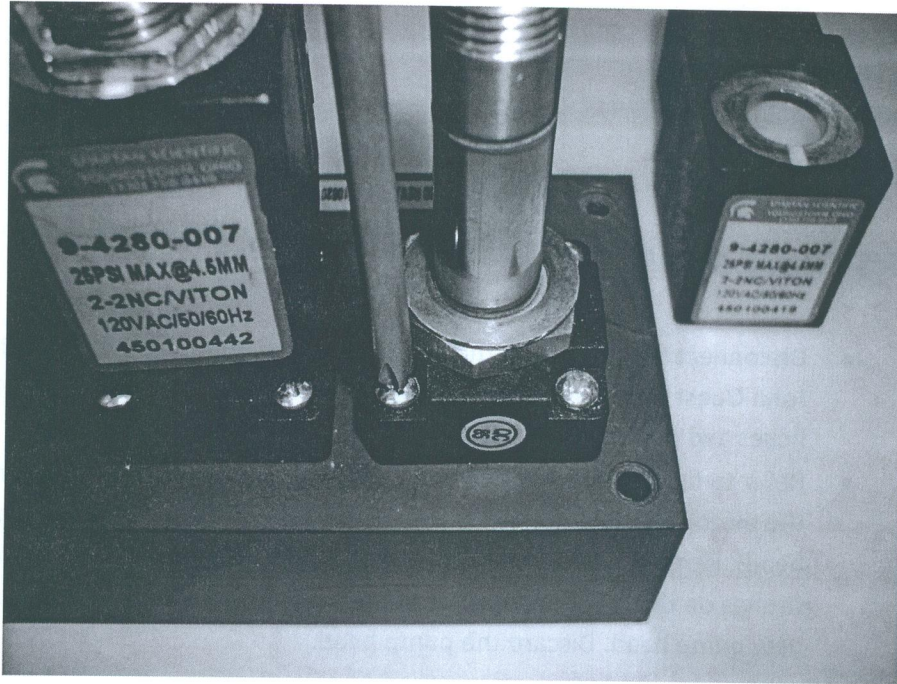

Fig 22
- Remove the four Phillip head screws from the valve and lift the valve off the manifold. Refer to Figure 22.